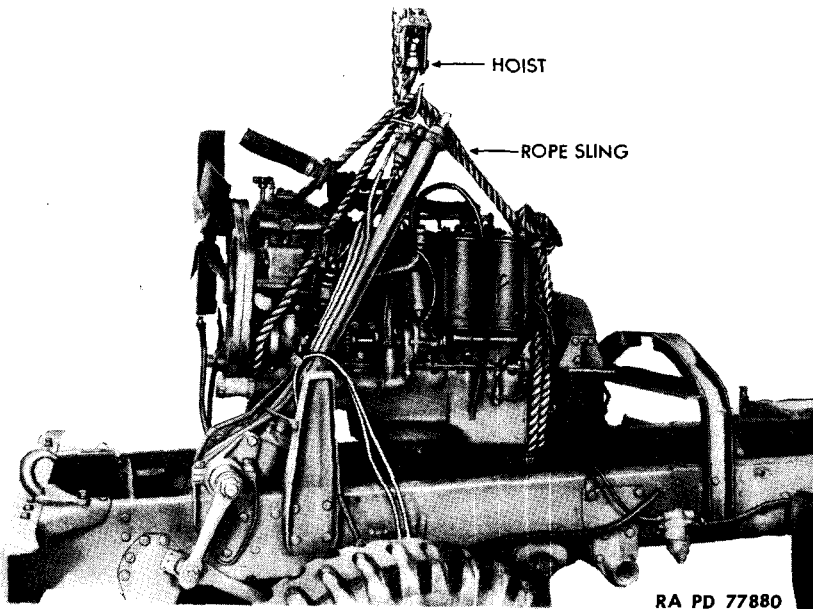

Figure 24 — Removing Engine From Vehicle
- uu. **Attach Rope Sling to Engine** (fig. 24). Loop center of rope under crankshaft starting jaw housing. Bring ends of rope diagonally across top of engine, crossing them at center; then pass each end of
ww. **Remove Engine From Vehicle** (fig. 24). Raise engine slowly off supports, checking disengagement of all wires and parts. Shift position of vehicle as necessary to provide clearance. Continue raising engine, and remove from vehicle. Remove front engine support bracket spacer.
a. **Attach Rope Sling to Engine** (fig. 24) (par. 56 uu).
b. **Position Engine on Vehicle** (fig. 24). Install four new support blocks on rear engine support extensions, and position blocks on extensions. Position support bracket spacer on front engine support. Raise engine to position at front of vehicle, and then lower slowly to front support and rear support extensions. **CAUTION: Maintain adequate clearance for parts and assemblies.**